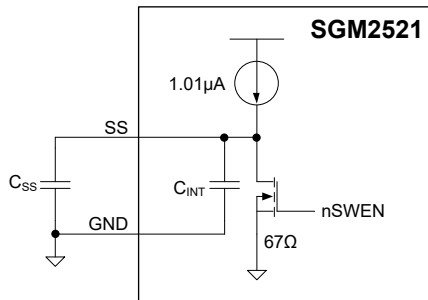

Figure 4. Output Ramp Time t_{dVdT} is Set by C_{dVdT}
SGM2521/1A/2/2A are designed to control the in-rush current upon insertion of a card into a live backplane or other "hot" power source. This limits the voltage sag on the backplane's supply voltage and prevents unintended resets of the system power. A slew rate controlled start-up (SS) also helps to eliminate conductive and radiated interference. An external capacitor from the SS pin to GND defines the slew rate of the output voltage at power-on (as shown in Figure 4). The equation governing slew rate at start-up is shown in Equation 1: